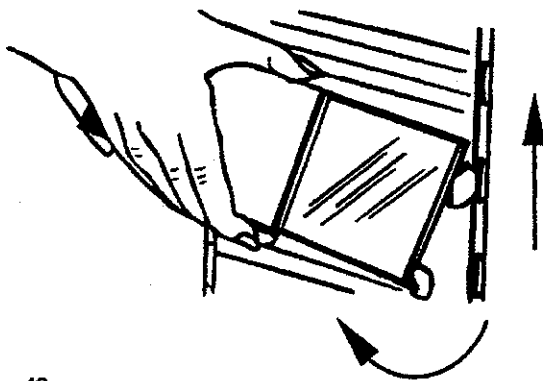

Figure 49
- e. Hold shelf against door and tap down gently on both ends until shelf is seated securely. See Figure 49.